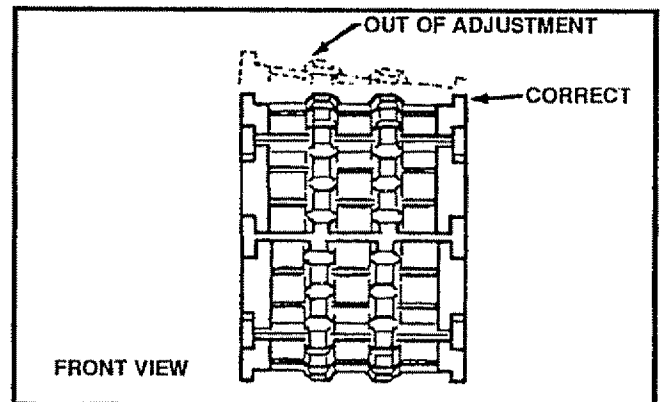

FIG. 36
- Adjust the track to reduce slack, so that the distance between the top of the side plate and the inside of the track is not greater than two (2) inches. Be sure the cam washers are adjusted evenly or the track will be twisted (See Fig. 36). If the track becomes twisted, readjust the cam washers to the correct adjustment.